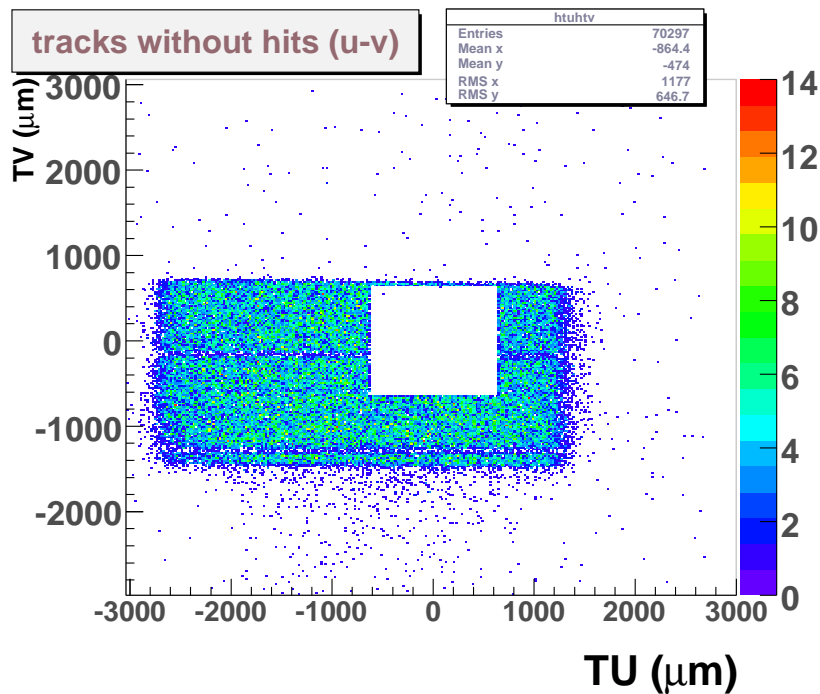

FIG. 3 – Tracks not associated to a hit in the (TU,TV) reference frame (with a good alignment)
- Now click on *Check Ref.Tracks* (or *gMAF->Checkreferencetracks()*). On Canvas 1, you can see the figure 3 (if the alignment is already correct), representing all tracks which are not associated to a hit in mimosa. It means that there are no hit closer than the *TrackHitDist* cut. The trigger used has roughly a $2 \times 4\mu m^2$ dimension. The white square corresponds to the shadow of the analysed matrix. This plot shows that it will be necessary to remove all the